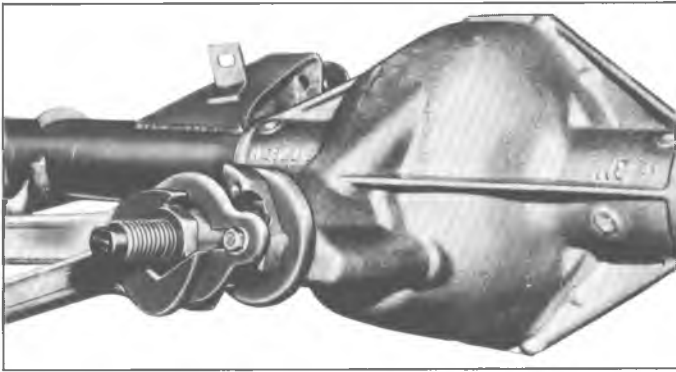

Fig. 62—Installing Pinion Flange
5. Using J-8614-11 as shown in figure 62, install flange onto pinion. Install washer and nut, and tighten nut to original position. Refer to scribe marks and number of exposed threads, recorded earlier.